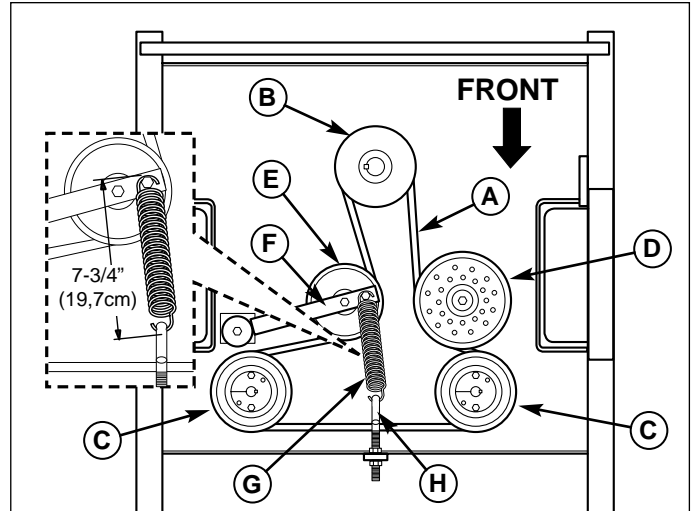

Figure 33. Hydraulic Pump Drive Belt Replacement
3. Loosen the nut towards the front of the machine on the spring anchor hook (H, Figure 33) to release the majority of the belt tension. Use caution and remove the nut to completely release the tension.
4. Remove the old belt and replace it with the new one. Make sure the V-side of the belt runs in the grooves of the crankshaft pulley and pump pulleys (B & C, Figure 33).
5. Reinstall the anchor hook (H, Figure 33) into the anchor tab and loosely fasten the nut. Adjust the spring until a measurement of 7-3/4" (19,7cm) is achieved from the outside of the spring hooks. Tighten nut.